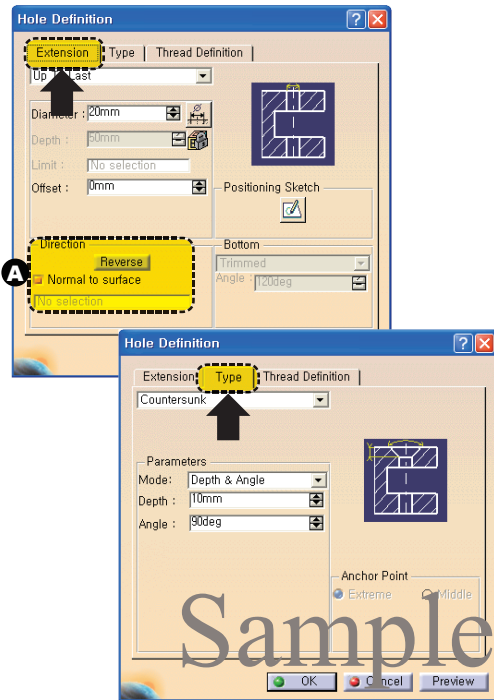

Fig 6-21 Type and Extension Option
3. Set the **Extension** and **Type** option in the dialog box as shown in Fig 6-21.
With the **Direction** option designated by **A** in Fig 6-21, you can specify the direction of the hole not normal to the sketch plane.